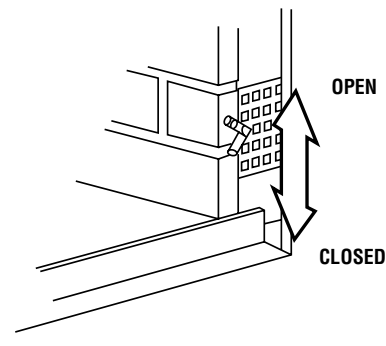

Figure 42
Step 3. The air inlet for the outside air kit is located on the right hand side of the fireplace (Figure 42). Refer to the installation instructions packed with each FOAK-4 air kit for specific installation information. The outside air kit, if used, must be installed before the fireplace is totally framed and enclosed within the finished walls.